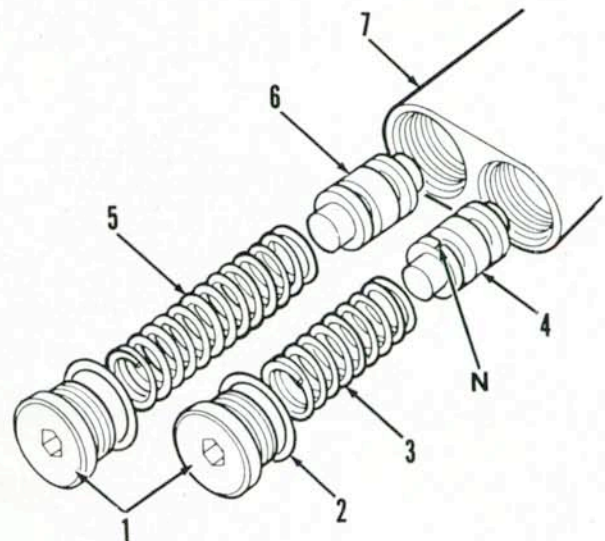

Fig. 193A—Low pressure regulating valve used on TW-5, TW-15 and TW-25 tractors.
When disassembling valve, tag spools (Fig. 193A or 193B) and springs for later identification, as the spools and springs are not interchangeable. Note that
Effective with transmission date code 7D15 (TW-5, TW-15 and TW-25) and 7D24 (TW-35) a new style pressure regulating valve was used. The wire strainer was eliminated from system pressure valve spool and a notch (N—Fig. 193A or 193B) was cut in front land of lubrication pressure valve spool (4). The notch allows a small amount of oil to flow behind the valve spool and cushion operation of the spools. When reassembling valve, be sure that notched end of spool toward the spring. The new style regulating valve can